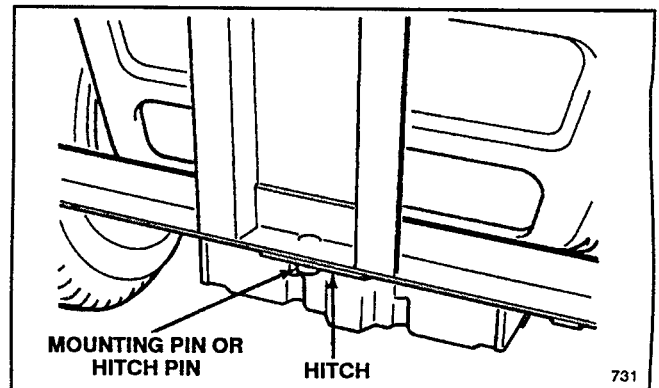

Figure 7
- Slide grass catcher mounting pin (rider) or hitch pin (tractor) into mounting hole in hitch (Fig. 7).